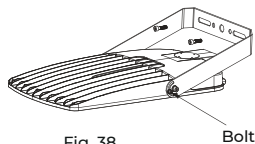

Fig. 38
2. After angle adjusted, use the screw to tighten the bracket as shown in Fig. 38.